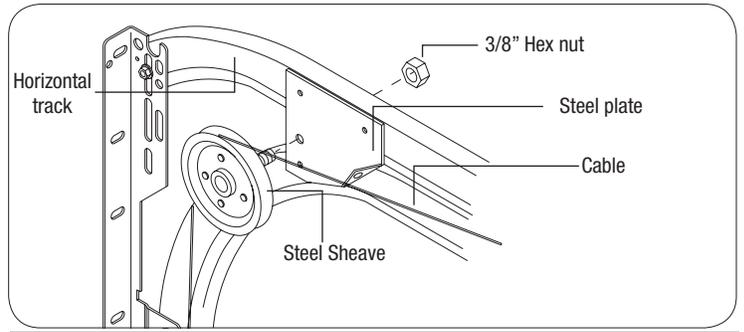

FIG. 8.1
Secure the studded sheave to the hole shown using (1) 3/8" hex nut. Repeat for the other side, then loop the counterbalance cables over each sheave, as shown in FIG. 8.1.